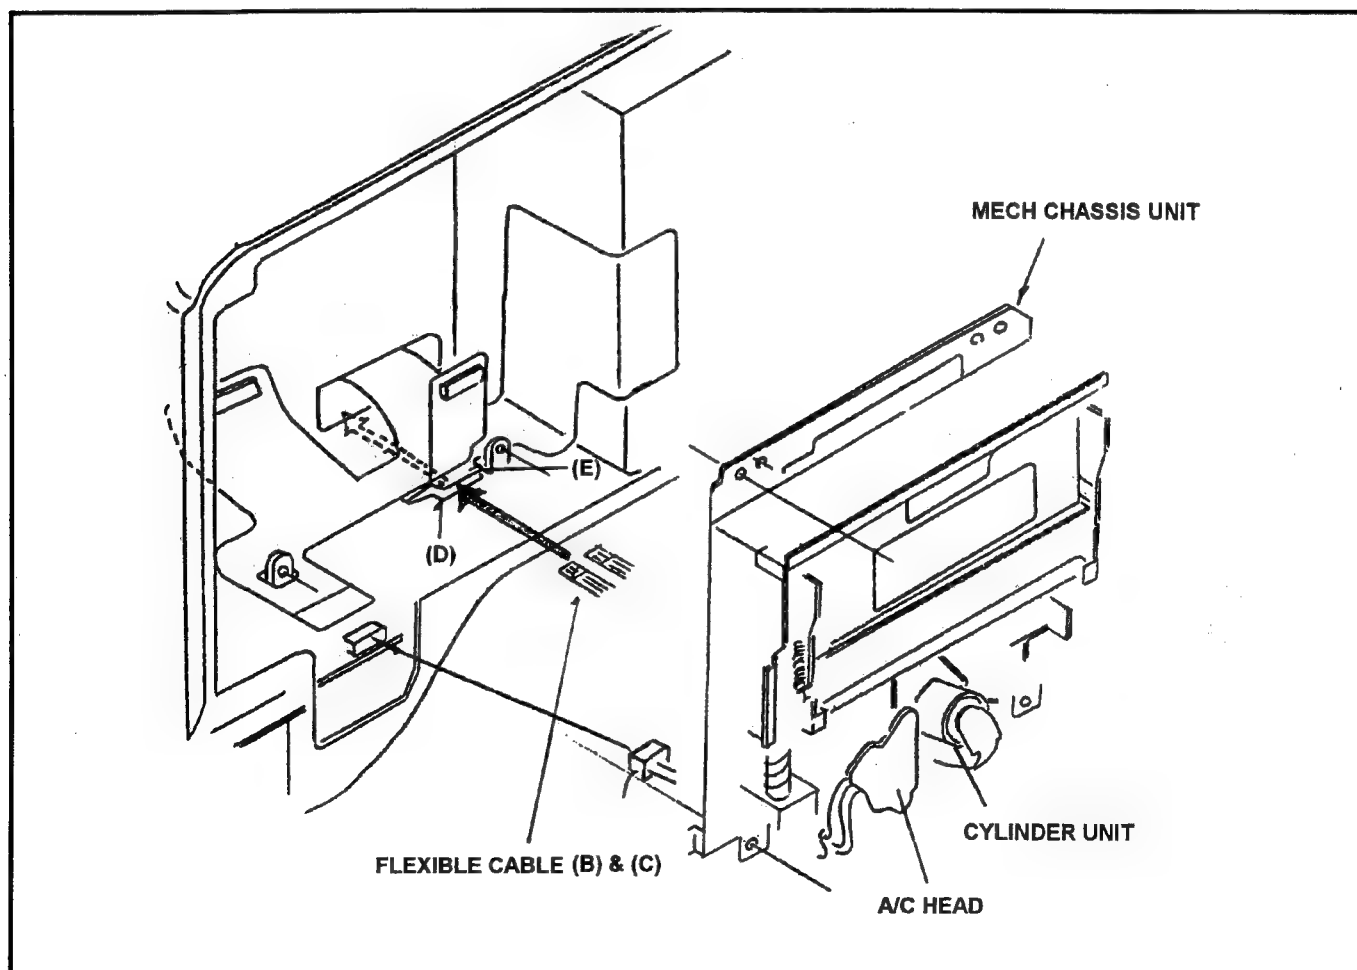

Fig. 8-1-5
Note: Please put the flexible (B) and (C) between copper shield plate (D) and (E) as shown in Figure 8-1-5.